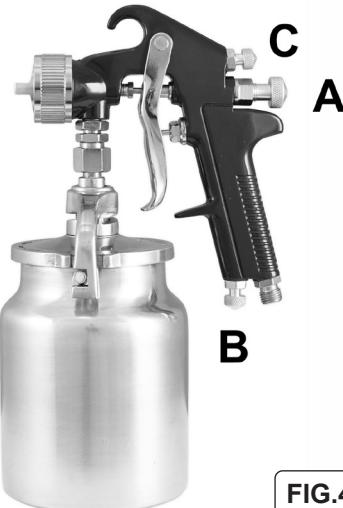

FIG.4
- a) Use the paint control knob, fig.4.A to increase or decrease the paint flow.
- b) Fig. 4.B is the air input control and should be set to the lowest effective flow.
- e) The spray pattern is variable from round to flat with patterns in between, controlled by the pattern knob, fig.4.C.